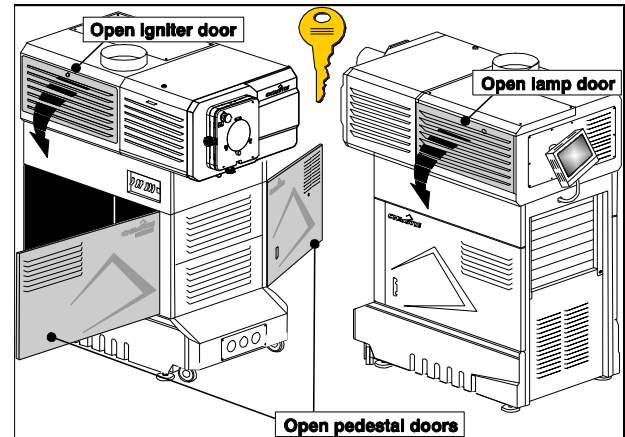

Figure 3-5 Open Projector for Access
- a. Open both pedestal doors (Figure 3-5).
5. With the lamp door removed (refer back to **Figure 3-5**), turn the small knob and swing open the lamp cooling compartment door (**Figure 3-10**).